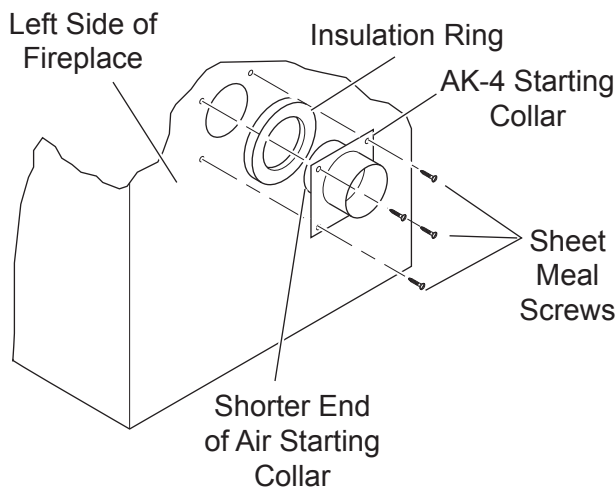

Figure 18 - Attaching Outside Air Starting Collar and Insulation Ring to Left Side of Fireplace
3. Place the starting collar (4") into the hole on the side of fireplace. Fasten it in place with the four sheet metal screws provided. See Figures 18 and 19.